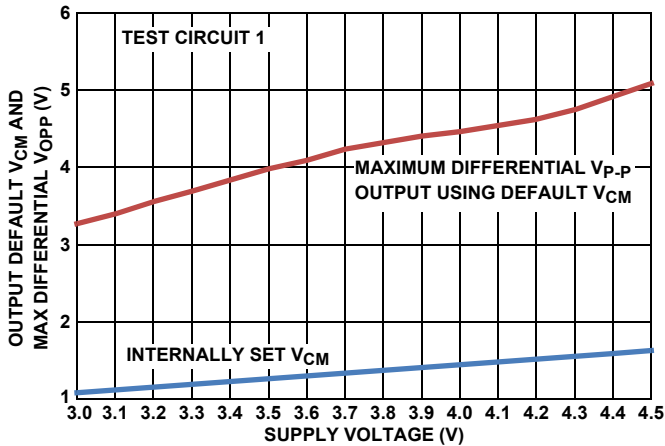
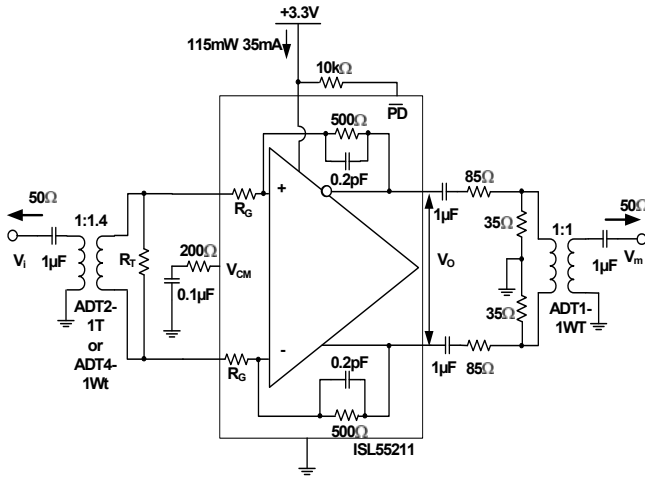
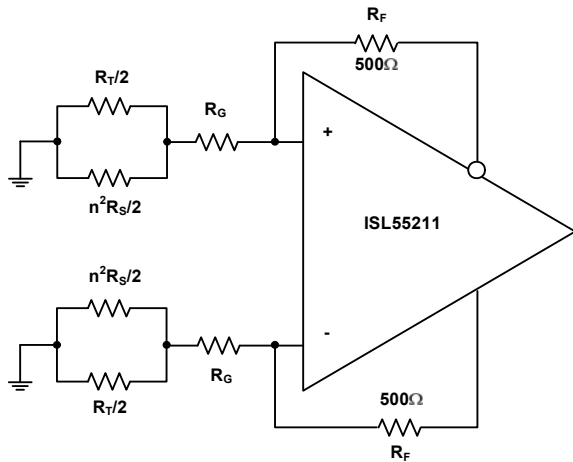
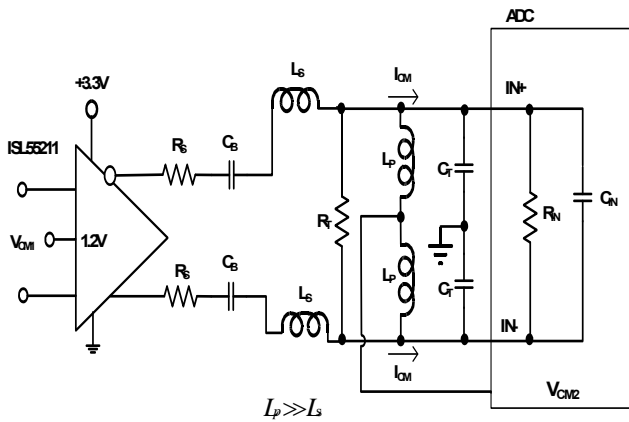

FIGURE 27. DEFAULT V_{CM} AND MAX V_{OPP} vs SUPPLY VOLTAGE
FIGURE 29. TEST CIRCUIT 1
FIGURE 35. NOISE GAIN MODEL FOR THE TRANSFORMER COUPLED INPUT CIRCUIT OF FIGURE 29
FIGURE 37. AC-COUPLED, HIGHER FREQUENCY RLC INTERSTAGE FILTER DESIGN
Test Circuit 1 of Figure 29 forms a starting point for many of the characterization curves for the ISL55211. Since most lab sources and measurement devices are single-ended, this circuit converts to differential at the input through a wideband transformer and would also be a typical application circuit coming from a single-ended source. Assuming the source is a 50Ω impedance, the internal R_G resistors and external R_T are set to provide both the input termination and the gain. Since the inverting summing nodes act as virtual ground points for AC signal analysis, the total termination impedance across the input transformer secondary will be $(2 * R_G) || R_T$. Setting this equal to $n^2 * R_S$ will give a matched input impedance inside the bandwidth of the transformer (where "n" is the turns ratio). The amplifier gain is fixed by the selected input R_G element and the internal 500Ω feedback resistors. While the ISL55211 is internally a Voltage Feedback Design (VFA) to give the lowest possible noise, internal compensation caps hold the bandwidth over gain setting approximately constant at 1.4GHz. For wider small signal bandwidth at lower gains, consider the ISL55210, which provides >2.2GHz at a gain of 12dB.
Working with a transformer coupled input as shown in Figure 29, or with two DC blocking caps from a differential source, means the output common mode voltage set by either the default internal V_{CM} setting, or a voltage applied to the V_{CM} control pin, will also appear as the input common mode voltage. This provides a very easy way to control the ISL55211 I/O common mode operating voltages for an AC-coupled signal path. The internal common mode loop holds the output pins to V_{CM} and, since there is no DC path for an I_{CM} current back towards the input in Figure 29, that V_{CM} setting will also appear as the input common mode voltage. It is useful, for this reason, to leave any input transformer secondary centertap unconnected. The internally set V_{CM} voltage is referenced from the negative supply pin. With a single 3.3V supply, it is very close to 1.2V but will change with total supply voltage across the device as shown in Figure 27.
Most of the characterization curves starting with Figure 29 then get different gains by changing the connections to the two pairs of input R_G connections, as shown on the pin configuration drawing on page 2. Two input turns ratios are intended for Test Circuit 1; either a 1:1.4 turns ratio (ohms ratio of 2) or a 1:2 turns ratio (ohm ratio of 4). The specific transformers shown in Figure 29 are representative of broadband RF transformers but alternate devices and manufacturers of these turns ratio devices are certainly applicable. The output side of this test circuit presents a differential 200Ω load while converting the differential to single-ended through a resistive attenuator and a 1:1 transformer. This inserts approximately a 17dB insertion loss that is removed to report the characteristic curves. For load tests below the 200Ω shown in Figure 29, a simple added shunt resistor is placed across the output pins. For loads > 200Ω, the series and shunt load R's are adjusted to show that total load (including the 50Ω measurement load reflected through the 1:1 output measurement port transformer) and provide an apparent 50Ω differential source to that transformer. This output side transformer is for measurement purposes only and is not necessary for final applications circuits. There are output interface designs that do benefit from a transformer as part of the signal path as shown in Figure 1. In that case, the 1:1.4 output side transformer becomes part of a filter design and recovers the filter insertion loss from the amplifier output pins to the ADC inputs.
The characterization circuit of Figure 29 shows one possible input stage interface that offers several advantages. Where AC coupling is adequate, the circuit of Figure 29 simplifies the input common mode voltage control. If the source coming into this stage is single-ended, the input transformer provides a zero power conversion to differential. The two gain resistors (R_G in Figure 29) provide both a portion of the input termination impedance and the gain element for the amplifier. For 50Ω systems, these R_G resistors are too high with the turns ratios shown in Figure 29 to provide the full match and an external R_T resistor is required. This R_T element goes away at the highest gain setting using a 1:2 input turns ratio transformer.
This input interface also simplifies the input common mode control. The V_{CM} pin controls the output common mode voltage. In most DC-coupled FDA applications, the input common mode voltage is determined by both this output common mode and the source signal. In a configuration like Figure 29, there is no path for a common mode current to flow from output to input, so the input common mode voltage equals the output. A similar effect could be achieved with just two blocking caps on the two R_G resistors. A DC-coupled, single to differential, configuration will also have a common mode input that is moving with the input signal. Converting to just a differential signal at the amplifier, as in Figure 29, removes any input signal related artifacts from the input common mode making the ISL55211 behave as a differential only VFA amplifier. There is only a very small differential error signal at the inputs set by the loop gain, as in a
of 1.3V for instance, then $1.3V + 0.9V + 1.5V = 3.7V$ will give an unclipped 3.6V_{P,P} output capability. The $V_{P,P}$ reported in Figure 27 is an asymmetrically clipped maximum swing. Going 10% above this 3.7V target to 4.1V will be within the recommended operating range and give some tolerancing headroom that would also suggest the V_{CM} voltage be moved up to approximately 1.5V, which coincides with the default output V_{CM} from Figure 27. Operating at +4.1V single supply in a Figure 29 type configuration will give the maximum linear differential output swing of 3.6V_{P,P}.
The differential inputs internal to the ISL55211 also have operating range limits relative to the supply voltages. Operating in an AC-coupled circuit like Figure 29 will produce an input common mode voltage equal to the outputs. The inputs can operate with full linearity with this V_{CM} voltage down to 1.1V above the $-V_S$ supply. On the default 1.2V output V_{CM} on +3.3V supplies this gives a 100mV guardband on the input V_{CM} voltages. Overriding the default V_{CM} by applying a control voltage to the V_{CM} pin should be done with care in going towards the negative supply due to this limit. On the + side, the maximum input V_{CM} above the $-V_S$ supply is 2V so there is more room to move the output V_{CM} up than down from the default value.
+85°C maximum operating ambient from Figure 27, we get $4.5V \times 45mA \times 120^\circ C/W = +24^\circ C$ rise above +85°C or approximately +109°C operating T_j maximum - still well below the specified Absolute Maximum operating junction temperature of +135°C.
Adding an input transformer can improve the input referred noise by adding a noiseless voltage gain. Starting from Test Circuit 1 of Figure 29, and assuming the source shows a matched broadband source R_S that will be matched by the input referred parallel combination of $2 * R_G || R_T$, a noise gain analysis circuit can be developed as shown in Figure 35.
Stepping through the 3 gain settings with two input transformers will allow the noise gain to be calculated for the circuit of Figure 35, which is all that is needed in Equation 1 to arrive at an output differential noise (since R_F is fixed at 500Ω). Doing this gives Table 4.
2. AC-coupled, higher frequency range interstage filter design. This design replaces the R_T resistors in Figure 35 with large valued inductors and implements the filter just using shunt resistors at the end of the RLC filter. In this case, the ADC V_{CM} can be tied to the centerpoint of the bias path inductors (very much like a Bias-T) to provide the common mode voltage and current to the ADC inputs. These bias inductors do limit the low frequency end of the operation where, with $1\mu\text{H}$ values, operation from 10MHz to 200MHz is supported using the approach of Figure 37.